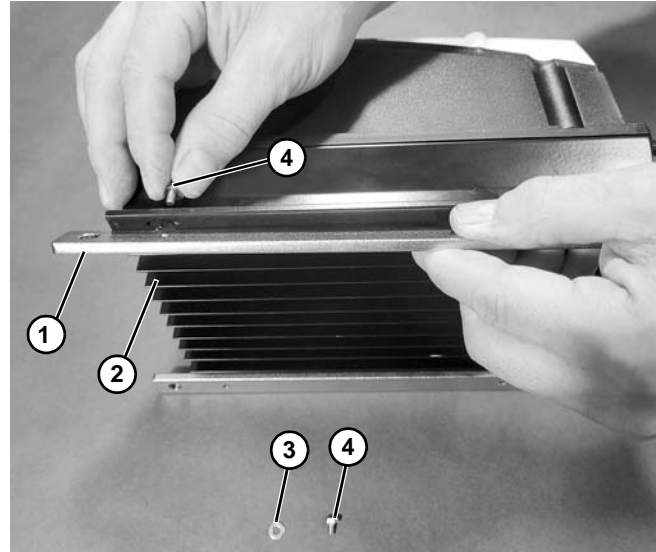

Figure 24
1. Attach mounting plates (Figure 24, item 1) to controller (Figure 24, item 2) with washers (Figure 24, item 3) and screws (Figure 24, item 4).